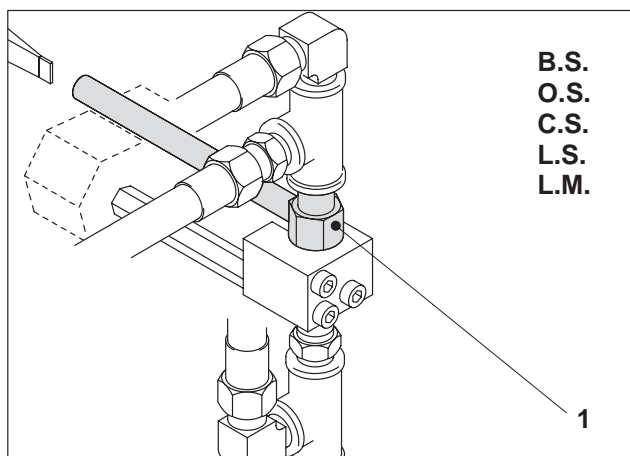

Fig. 28 Tap
- 6 Close the tap (Fig. 28/1) for the ink fountain temperature control device.
When the tap (Fig. 28/1) is closed the flow to the ink fountain roller is open.